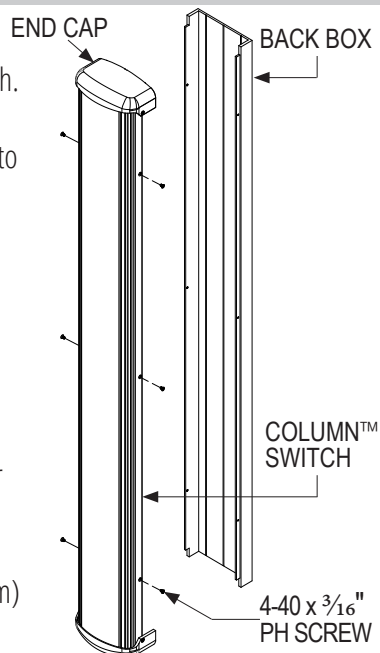

Figure 4.1 Disassembly
2. Unscrew the six 4-40 x 3/16" Phillips Screw along the sides of the Column™ Switch to detach the Back Box. (Figure 4.1)